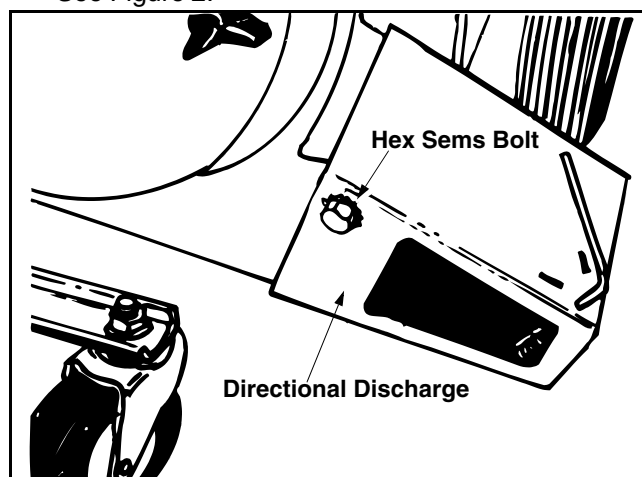

Figure 2
- Slip end of directional discharge over chute opening and secure with the hex sems bolts. See Figure 2.